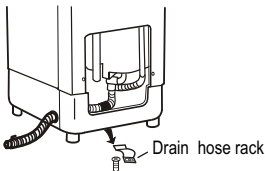
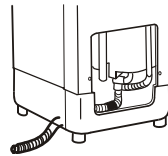

Figure 1
Figure 2
2. Take off the drain hose frame. Put down the drain hose. Take off the drain hose rack. As indicated in Figure 1, Pull the drain hose into the cabinet from the left side of the bottom (as figure 2).